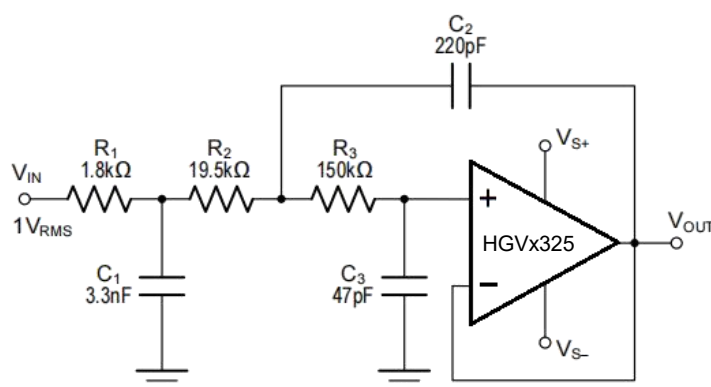

Figure 6. Configured as a Three-Pole, 20-kHz, Sallen- Key Filter
- using a non-inverting filter topology, such as the Sallen-Key (shown in Figure 6).